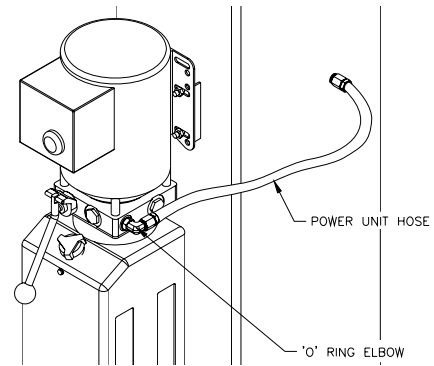

Fig 4-Power Unit Connection
- 12) Thread 9/16-18 O-ring elbow (*in hardware box*) into power unit. Attach free end of power unit hose to elbow. See **Fig 4**. **CAUTION** do not damage rubber O-ring.